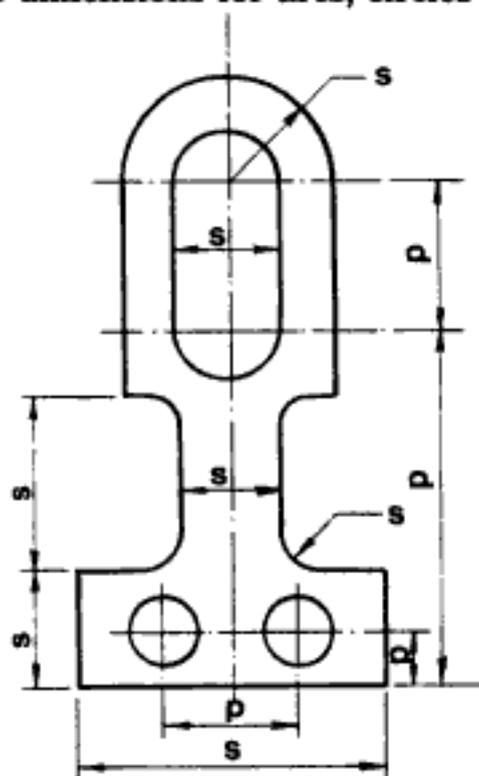

Fig 3.21
Fig 3.21 gives positional dimensions, marked P, and the size dimensions marked S. This means that some dimensions (P) give the **positions** of the centre lines for the arcs and circles, and others (S) the **size** dimensions for arcs, circles and objects.